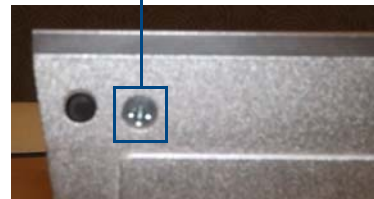

FIG. 3 LOCATION OF THE PHILLIPS HEAD SCREWS ON THE BOTTOM OF THE TOUCH PANEL
3. On the touch panel, turn the touch panel upside down and remove the 2 Phillips head screws at each corner from the bottom of the device (FIG. 3). The screws to be removed are next to the rubber feet on the front end. Store these screws in a secure location in case you wish to uninstall the secure table mount plate.
5. Using the two Phillips flat head screws included in the kit, secure the security mount base to the bottom of the touch panel from the underside of the base (FIG. 4). These holes must align with the holes in the touch panel's base from which the screws were already removed (FIG. 3).
- Using the two Phillips flat head screws included in the kit, secure the security mount base to the bottom of the touch panel from the underside of the base. These holes must align with the holes in the touch panel's base from which the screws were already removed (FIG. 3).